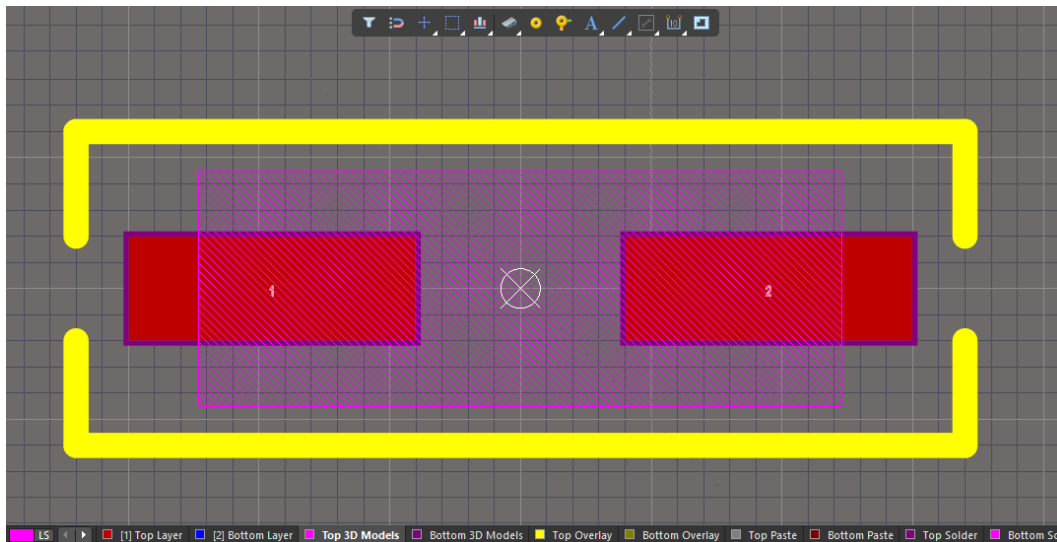

Figure 43. Copied outline
- f) Then, left-click to position the cursor on the origin so that the lines are now symmetrical below the pads as shown in Figure 43.